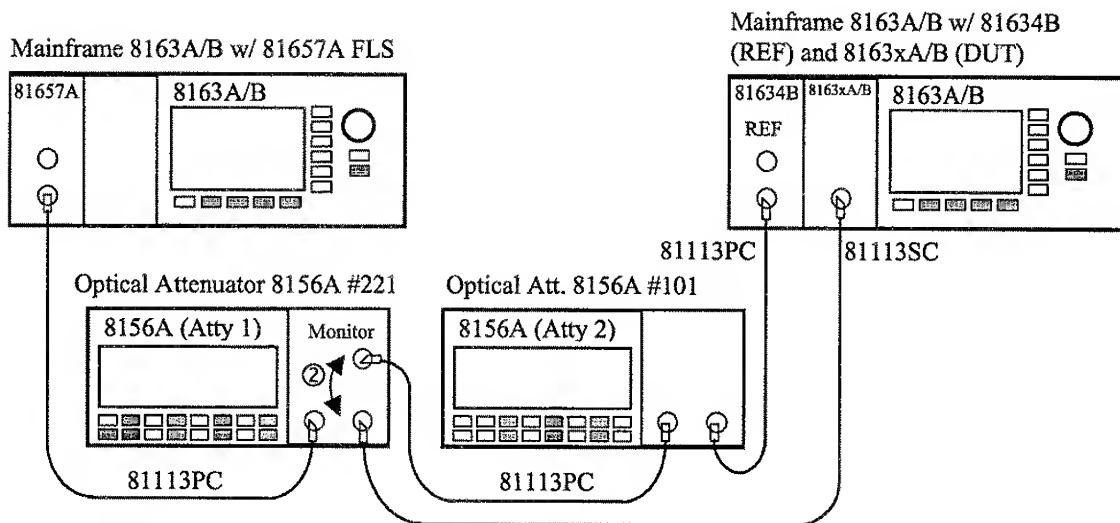

**Figure 3 Accuracy Test Setup**
- 2 Connect the equipment as shown in Figure 3. Ensure that the cables to and from the attenuator are fixed on the table and that both the optical head and the DUT are close together so that minimum cable movement is required when connecting the cable to the head or to the DUT.